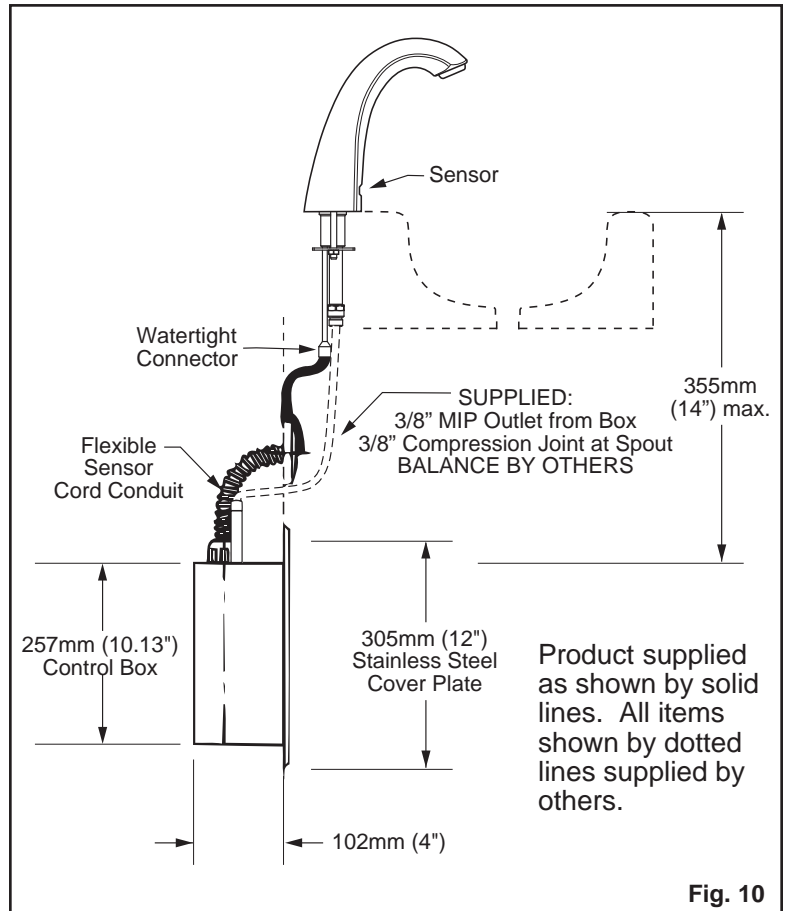

Fig. 10
**Note:** Wires connecting between box(es) and from transformer must be protected from abrasion, and being pulled at connections. They also may have to be fished through at a later stage of construction. Depending on installation, the cable bushings included may be replaced by **installer supplied** 1/2" conduit. Rough-in box as per Fig. 10.
**HARDWARE OR BATTERY** If recessed box is supplied, rough in as per Fig. 10. The most vandal resistant installation is when the control box is as close to the bottom of the sink as feasible. For wall hung sink installation, sensor conduit rough in should be directly under the basin to minimize sensor cord exposure. Rough in drainage. Rough in water supply to 10" control box inlets and to spout connection. Finish walls.